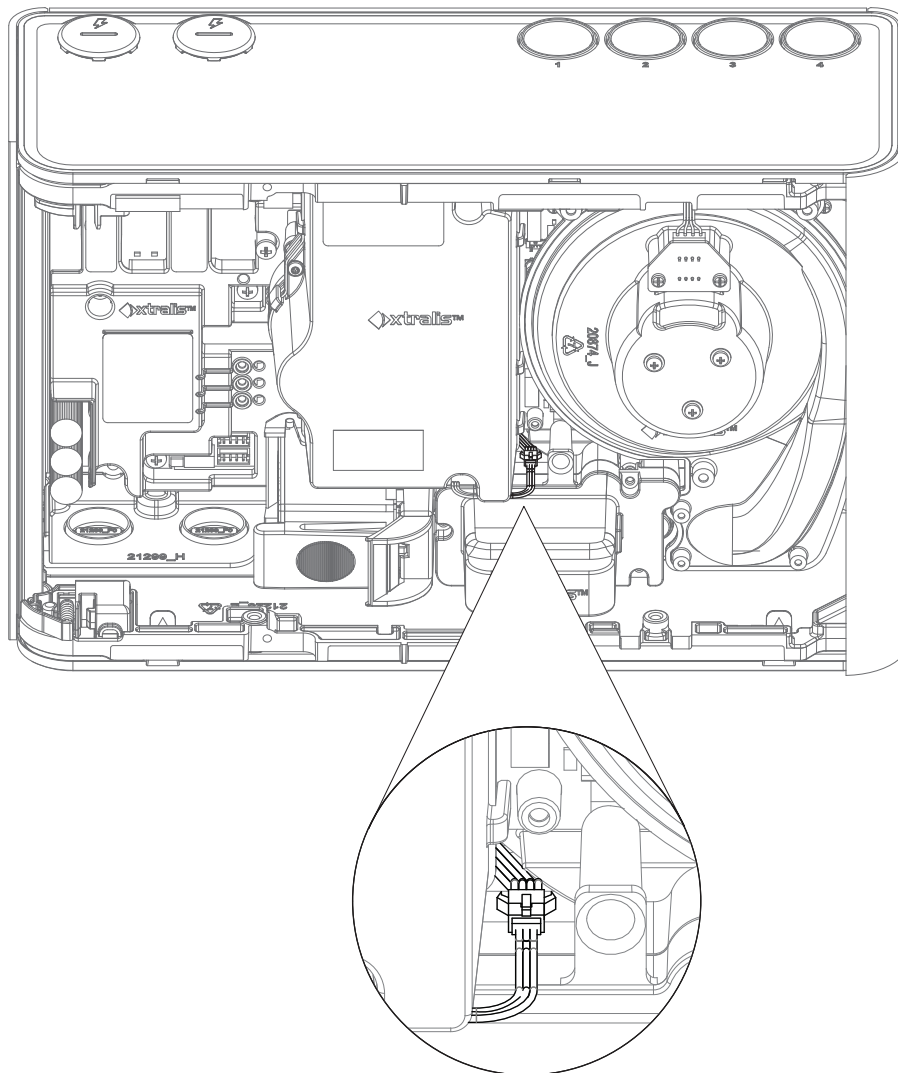

Figure 7-16: Disconnect the Sampling Module cable
3. Disconnect the Sampling Module cable (Figure 7-16).
2. Tighten the three screws and re-connect the Sampling Module cable (Figure 7-16).